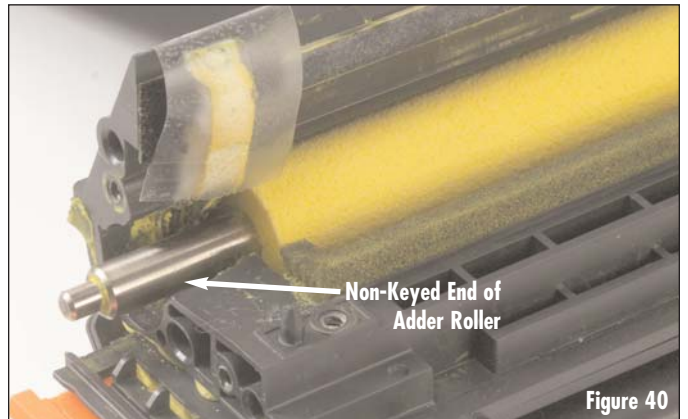

Figure 40
- a. Install the toner adder roller in to the hopper section as seen in Figure 40.